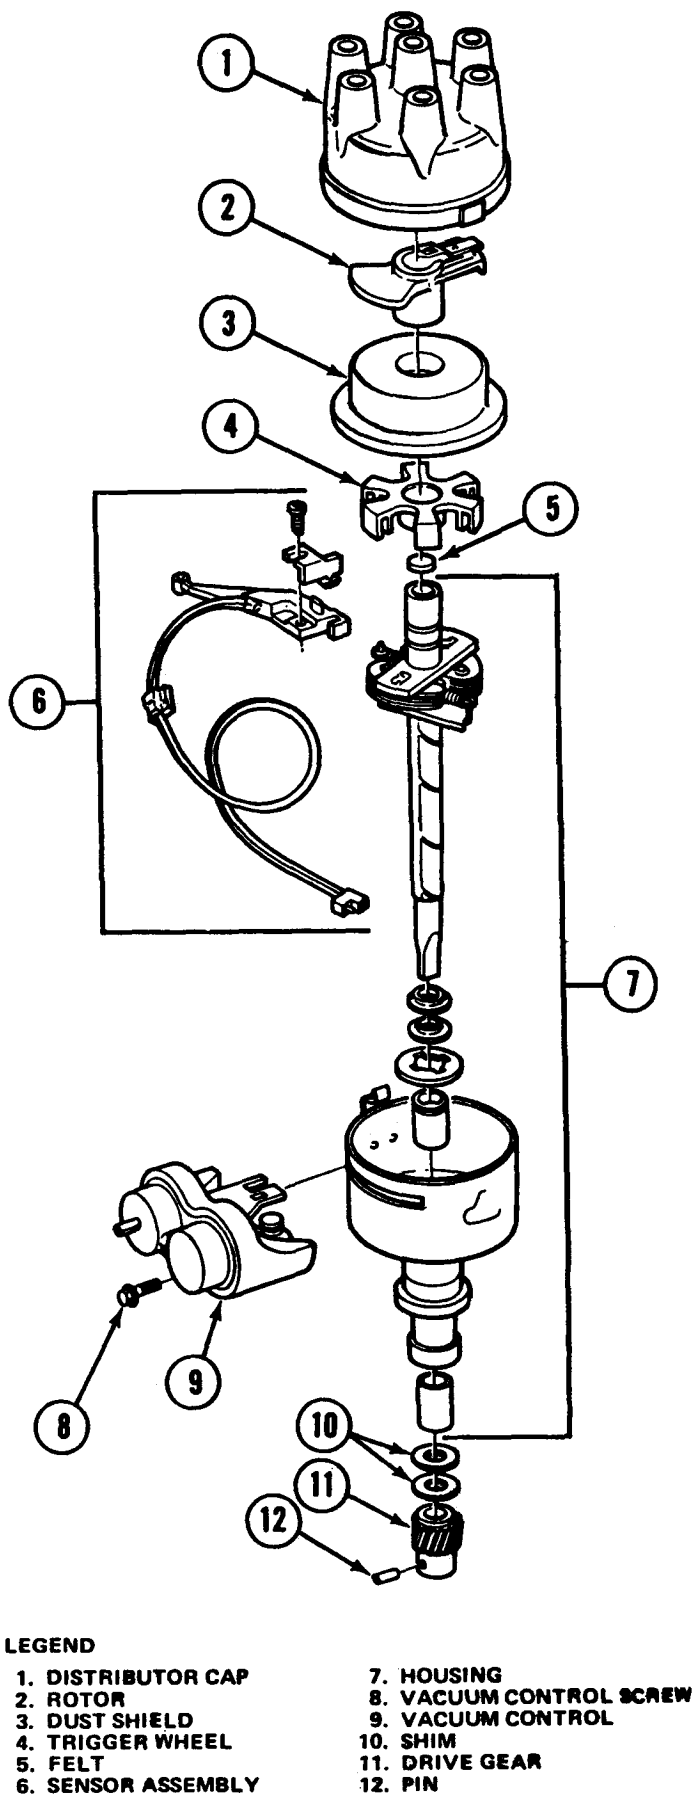

FIG. 26-EXPLODED VIEW OF THE DISTRIBUTOR ASSEMBLY (6 Cylinder)
When replacing the sensor or vacuum chamber on six-cylinder and V-8 engines, the distributor should be removed from the engine for ease of component replacement. (See Fig. 26).
- (1) Place distributor in suitable holding device.
- (2) Remove rotor and dust shield (Figure 26).
- (3) Remove trigger wheel using a small gear puller. Be sure the puller jaws are gripping the inner shoulder of the trigger wheel or the trigger wheel may be damaged during removal. Use a thick flat washer as a spacer. Do not press against the small center shaft.
- (4) Loosen the sensor locking screw about three turns.